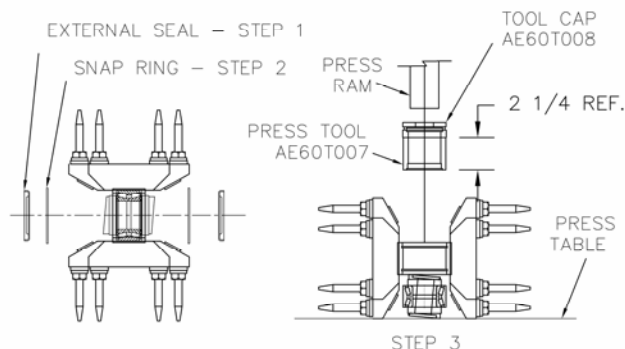

Figure 22. Rotor Hub Disassembly
1. With a pry bar remove the external seals (Figure 22) on both sides. Generally, seals are damaged and are not reused.